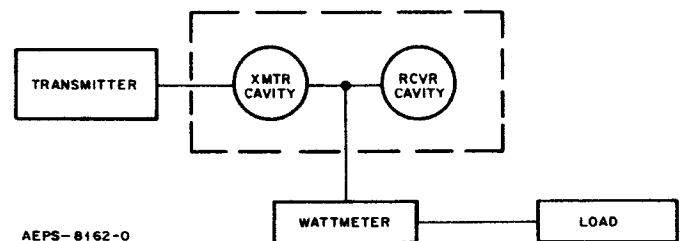

Figure 8. Method 2 Transmitter Branch Pass Test Set-Up
Step 2. Connect the equipment as shown in Figure 8.